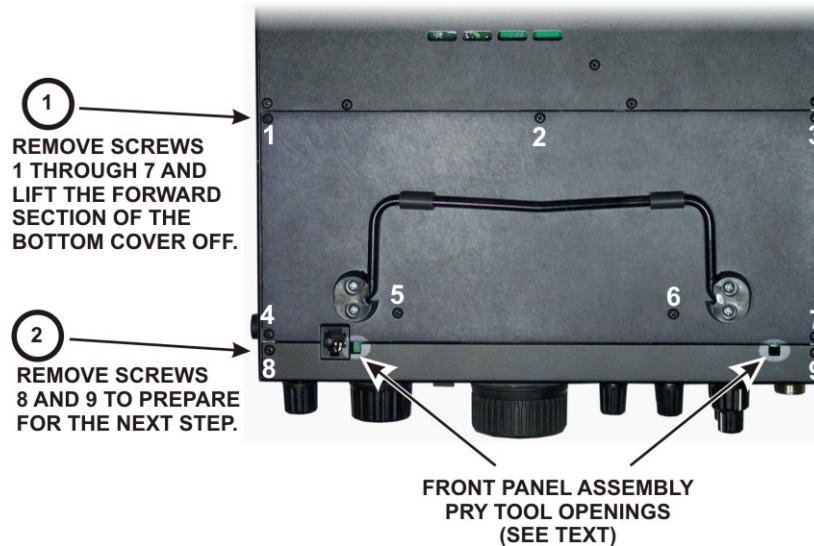

Figure 5. Removing Bottom Cover and Front Panel Screws.
Refer to Figure 5 and remove screws 1 through 7, then lift the forward section of the bottom cover off. Put it in a safe place to avoid scratches.
Refer to Figure 5 and remove screws 8 and 9.
- Replace the forward bottom cover using seven 3/16" (4.8 mm) black pan head screws (see Figure 5).